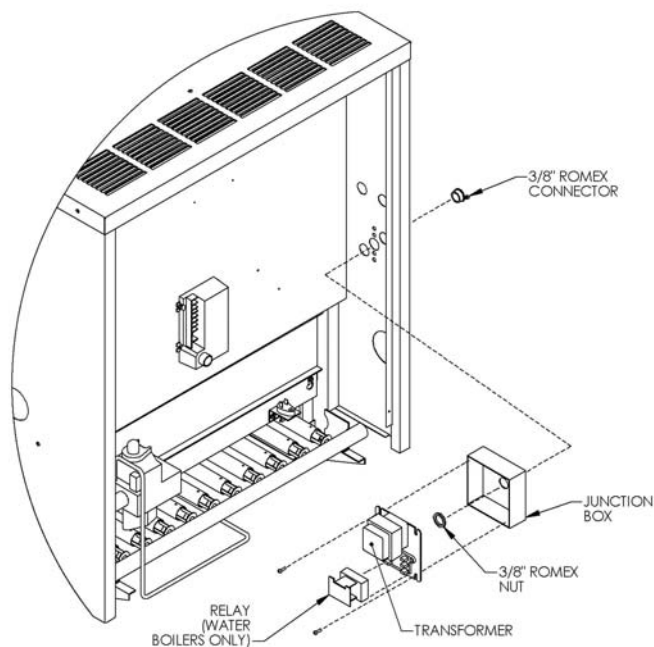

Figure 7.1
1. Mount the control transformer on the junction box as shown in Figure 7.1.